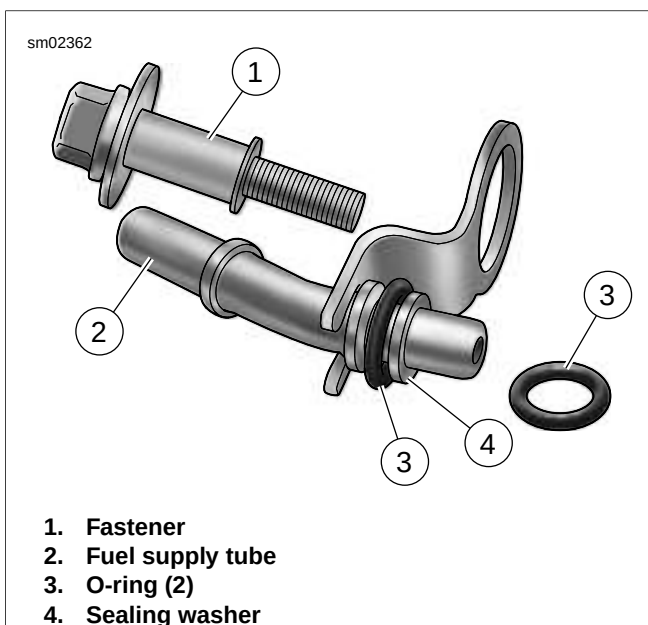
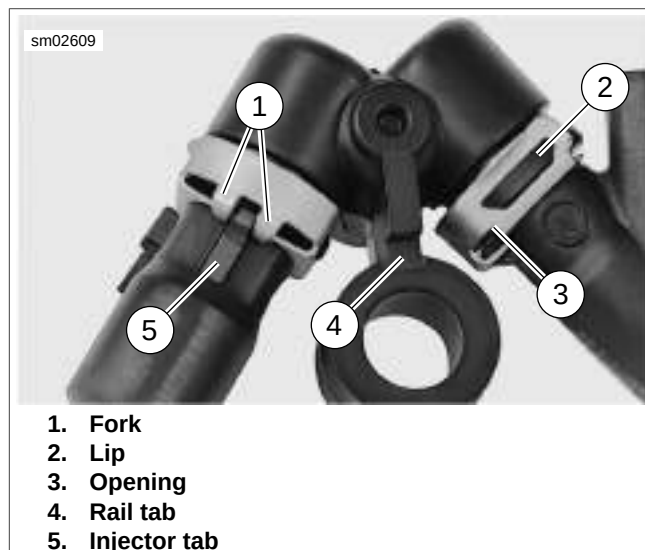

Figure 4-30. Fuel Supply Tube
Figure 4-31. Fuel Rail
2. See Figure 4-30. Remove fastener (1) retaining fuel supply tube (2).
3. Pull fuel supply tube from fuel rail. Remove sealing washer (4) and o-ring (3) from fuel supply tube. Remove second o-ring from fuel rail bore. Discard sealing washer and o-rings.
4. See Figure 4-31. Pull fuel injectors with attached fuel rail from induction module. To overcome the resistance of the bottom O-ring on both fuel injectors, gently rock assembly back and forth while pulling.
2. See Figure 4-31. Push electrical connector side of fuel injectors into fuel rail.
3. With the concave side toward the fuel rail, install spring clip into slot in fuel injector. In the installed position, openings (3) in sides of clip engage lip (2) on fuel rail, while fork (1) at back of clip captures rail tab (4) on fuel injector.
5. See Figure 4-30. Slide **new** o-ring (3) down shorter neck of the fuel supply tube until it contacts the collar. Slide **new** sealing washer (4) down tube until it contacts O-ring. Install second o-ring (3) in fuel rail bore.
6. Push fuel supply tube (2) into fuel rail bore until clamp is seated on round step of fuel rail. Install fastener (1) and tighten to 90-110 in-lbs (10.2-12.4 Nm).